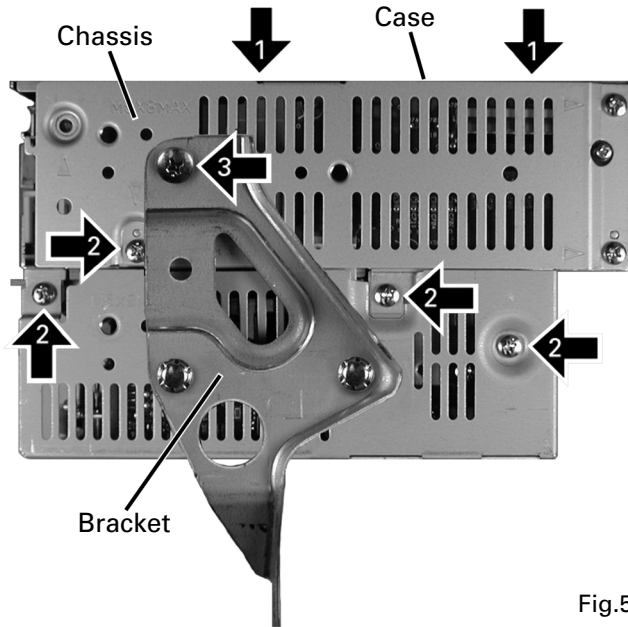
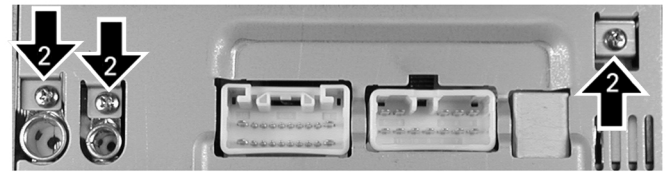

Fig.5
Fig.6
● **Removing the Case (Fig.4 and Fig.5)**
● **Removing the Chassis (Fig.4, Fig.5 and Fig.6)**
1. Apply about 6V current to the Cam gear motor until all holes match at the position (A) (elevation OK position).
2. Hook the three springs B temporarily as shown in Fig. 6. While pushing the Tray holder lock arms (right and left) in the direction (C), remove the Tray holder.